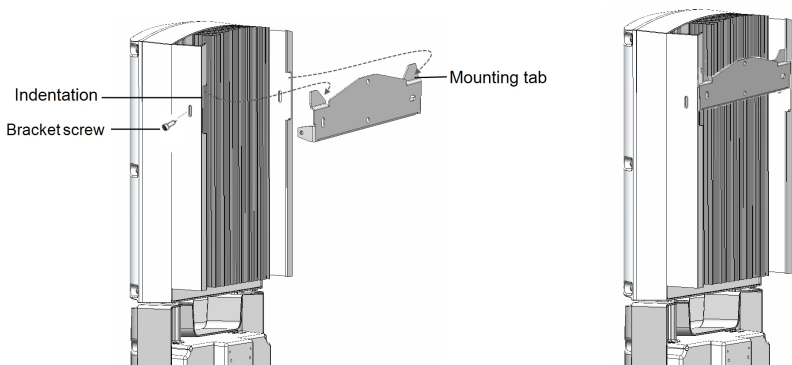

Figure 8: Hanging the inverter on the bracket
- Ensure that the flat side of the bracket is at the bottom, as in *Figure 8*.
4. Hang the inverter on the bracket (see *Figure 8*): Lift the inverter from the sides, or hold it at the top and bottom of the inverter to lift the unit into place. Do not lift holding the StorEdge Connection Unit as it may be damaged
6. Insert the two supplied screws through the outer heat sink fin on both sides of the inverter and into the bracket (see *Figure 8*). Tighten the screws with a torque of 4.0 N*m / 2.9 lb.*ft.